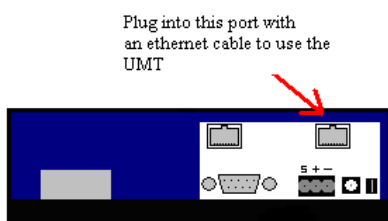

Figure 1
15. Connect the computer and the microprocessor controller with the use of an ethernet cable. Computer should be connected through an ethernet port and the controller through the Web Server port as shown in Figure 1.